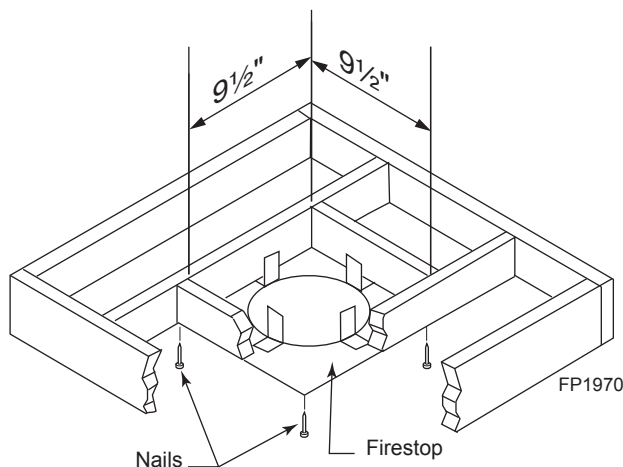

Figure 26 -
1. Cut a 9½" (241 mm) square hole in the ceiling using the locating hole as a center point. The opening should be framed to 9½" x 9½" (241 x 241 mm) inside dimensions as shown in *Figure 26* using framing lumber the same size as the ceiling joist. If the area above the ceiling is an insulated ceiling or a room, nail firestop from the top side. This prevents loose insulation from falling into the required clearance space. *Figure 23*. Otherwise, install firestop below the framed hole. The firestop should be installed with no less than three nails per side. *Figure 26*